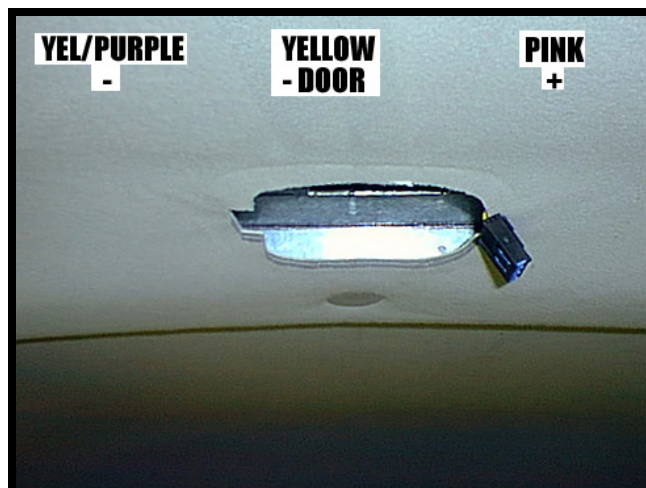

FIGURE 6
- Construct a 3' jumper harness that will connect the vehicle's dome light wires to the lights in video system. Connect the red/black wire from video system to the O.E. yellow/purple wire. Connect the purple wire from video system to the O.E. yellow wire. Connect the black wire from video system to the O.E. pink wire. See Fig. 6.